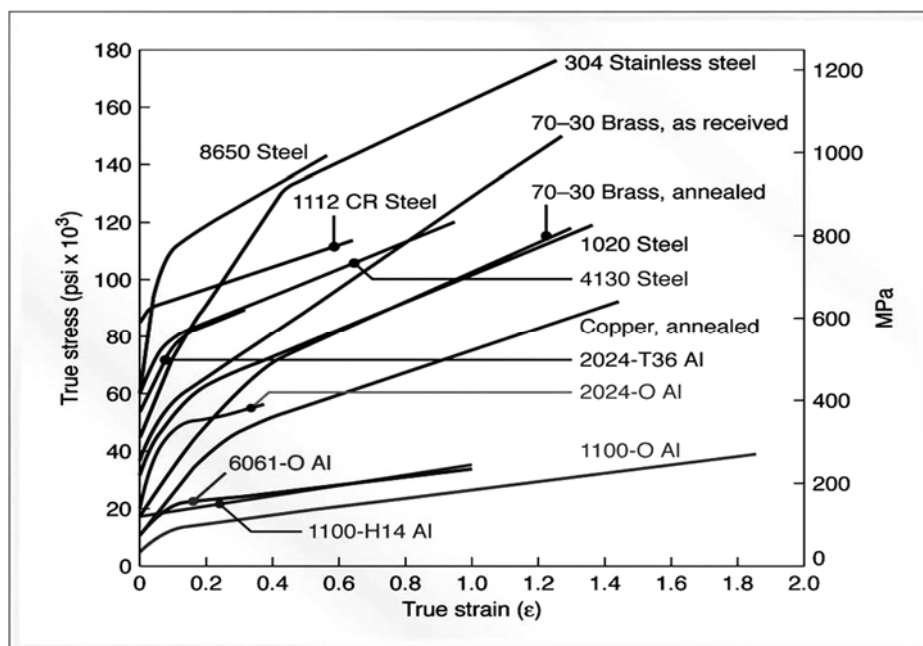

Figure Q3[c]
- [c] A solid copper cylindrical slug is 10 mm in diameter and 150 mm high. It is reduced in height by 30% at room temperature, using an open-die forging with flat dies. Assuming that the coefficient of friction is 0.35, determine the flow stress and calculate the forging force at the end of the stroke. Use the Figure Q3 [c] diagram to get the flow stress.